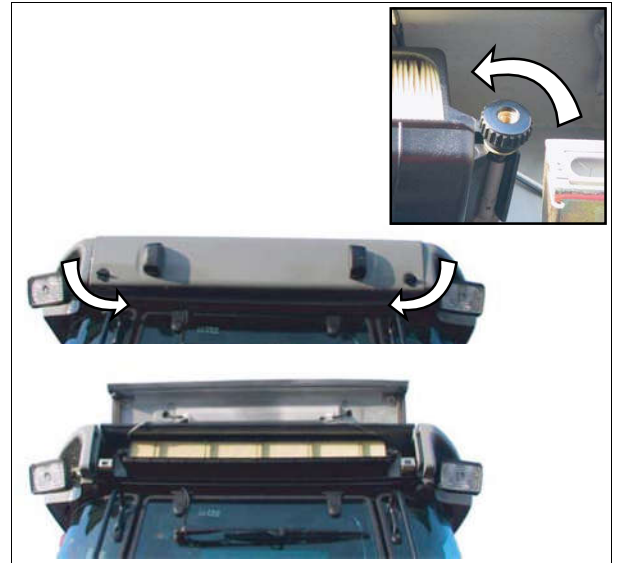

Fig. 4.
1. To gain access to the cab air filter, turn the locks *fig. 4* to open the hatch at the rear of the cab roof.
2. Loosen the two nuts *fig. 4* and extract the filter element.